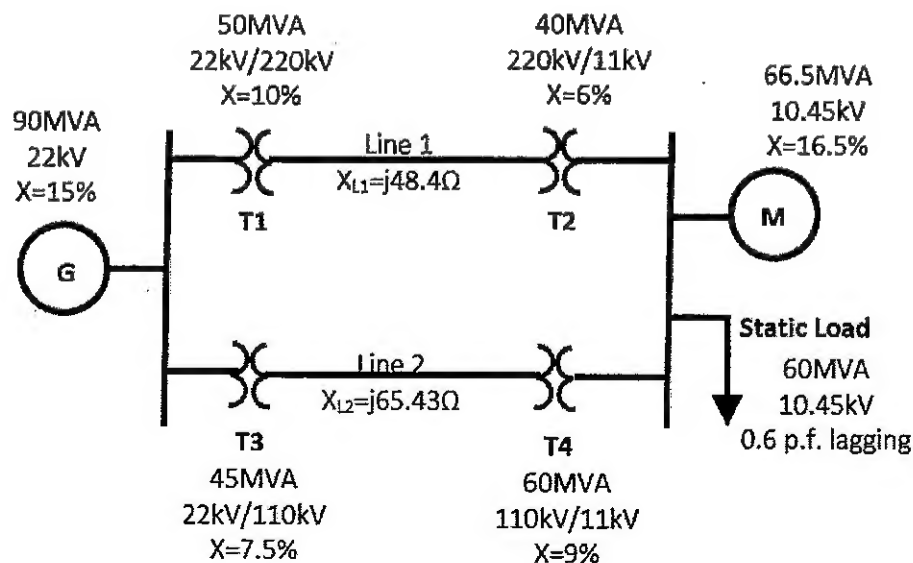

Figure Q3
- (b) The single line diagram of a three phase power system is shown in Figure Q3. Select a common base of 80MVA and 22kV on the generator side. Draw an impedance diagram with all impedances marked in per unit.